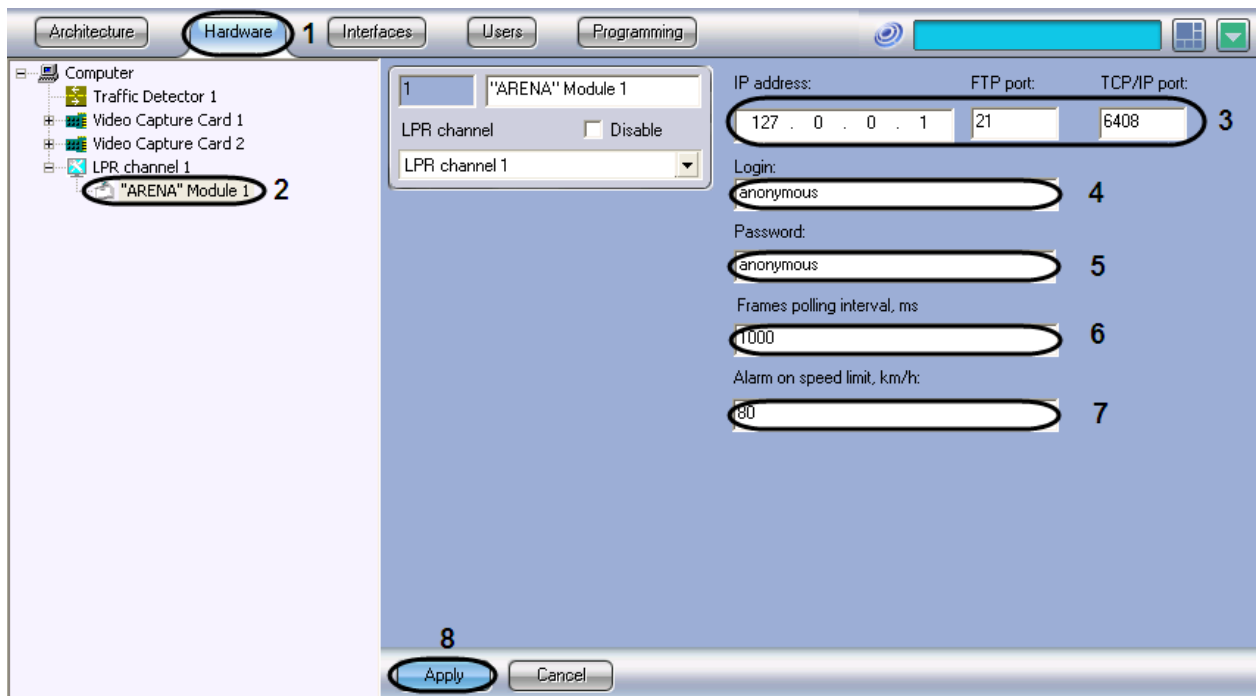

Fig. 7.2-2 Setting up the Arena module
1. Go to the Hardware tab in the system setting dialog window (Fig. 7.2-2, 1).
2. Select the Arena object, corresponding to the set up Arena program module on the Hardware tab (Fig. 7.2-2, 2). The settings panel of the selected object will open on the right side of the window.
3. In the field «IP address» enter the IP-address of the Arena computer with installed ftp-server (Fig. 7.2-2, 3).
4. In the field «Port» enter the port for connection to the ftp-server (Fig. 7.2-2, 3). Port 21 is used by default.
5. In the Login and Password fields enter the user name and password for connection to this ftp-server (Fig. 7.2-2, 4-5).
6. In the field Frames polling interval (ms) enter the time between two one by one requires Of Auto-Intellect PC for downloading the photos from the Arena integrated circuit (Fig. 7.2-2, 6).
7. In the field Alarm on speed limit enter the maximum available vehicle speed in km/h (Fig. 7.2-2, 7). In case, when the vehicle moves at a speed above the maximum available vehicle speed, the system generates the report about the excessive speed.
8. Click Apply (Fig. 7.2-2, 8).